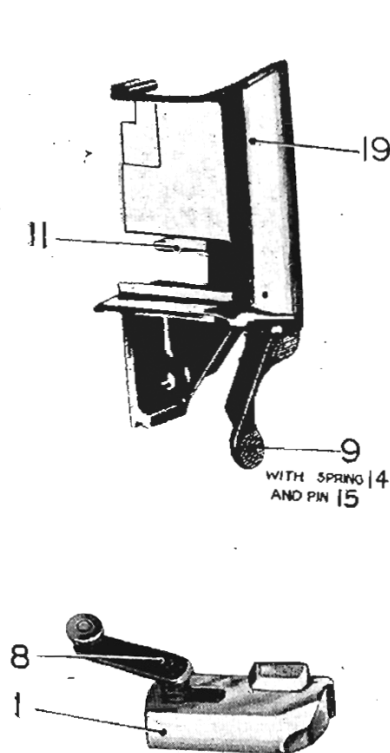

Figure 85. Accelerator, Mark II
The accelerator on the Marks I, II and II* guns consists of a hollow casing (1, Fig. 85) which houses an inner (20, Plate 6) and an outer (23) accelerator spring. The casing is supported in the rear of the body by a crank arm (8, Fig. 85) and may be placed in or out of the path of the piston extension which strikes it at the end of its rearward travel, and as a result increases the rate of fire due to the additional reaction of the accelerator springs.
| Feed pawl depressor (11, Fig. 85) | |
- Accelerator (1, Fig. 85).